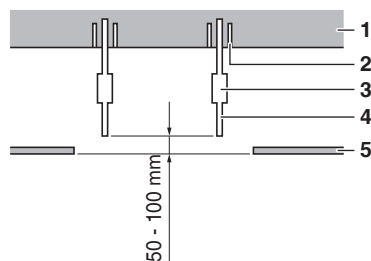

Fig. 6
- (2) Make the ceiling opening needed for installation where applicable. (For existing ceilings.)
- (3) Install the suspension bolts. (Use either a M8~M10 size bolt.) Use anchors for existing ceilings, and a sunken insert, sunken anchors or other field supplied parts for new ceilings to reinforce the ceiling in order to bear the weight of the unit. Adjust clearance from the ceiling before proceeding further. Installation example (See Fig. 6)